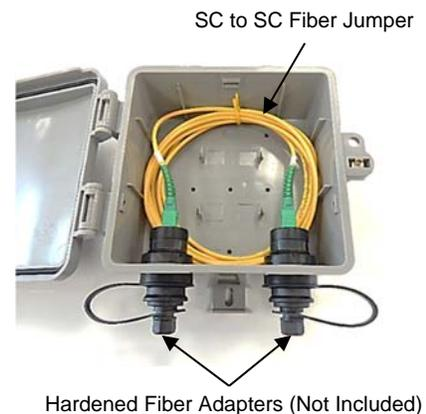

Figure 5
3. Install a short SC to SC fiber jumper (not included) in the interior of the box to join the two hardened fiber cables (See Figure 5).